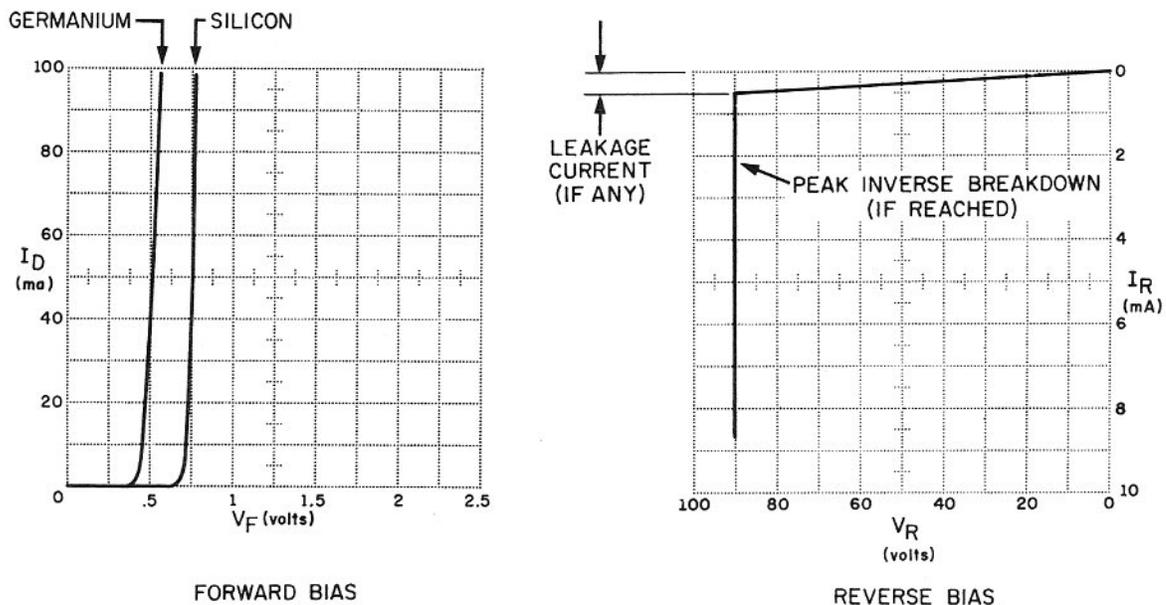

Figure 29. Typical Diode Curves
The diode to be tested is plugged into the collector and emitter pins of the transistor socket, or directly into the collector (C) and emitter (E) jacks of the curve tracer; test leads also may be run from the E and C jacks to the diode terminals. Since the polarity of the sweep voltage can easily be reversed with the POLARITY switch, the diode may be inserted into the socket without observing polarity. Of course, diodes inserted at one polarity will produce an oscilloscope display which deflects to the right and upward from its starting point, while the opposite polarity produces a display which deflects downward and to the left from its starting point. A consistent display can be obtained by always connecting the cathode of the diode to the emitter jack. With this polarity connection, the POLARITY switch should be in the NPN position for forward bias of the diode. The display will be the positive reading type as shown in Figure 29.
When testing diodes, only one curve is displayed, not a family of curves as displayed for transistors and FET's. The forward bias measurements that can be made are forward voltage drop and diode resistance. As shown in Figure 29, no current flows until the applied voltage exceeds the junction barrier. This forward voltage drop is about 0.3 volt for germanium diodes and 0.6 volt for silicon diodes. Above this point, current increases rapidly with an increase in forward voltage. The current increases more rapidly and the "elbow" has a sharper bend for silicon diodes than for germanium diodes. The dynamic resistance of the diode equals the change in forward voltage (V_F) divided by the change in forward current (I_F). Germanium diodes, with more slope to their curves, have higher dynamic resistance than silicon diodes.
The reverse bias condition of a diode may be displayed to check leakage (Figure 29). When the POLARITY switch is set to the opposite position as used for the forward bias tests, there should be only a horizontal line displayed. The oscilloscope centering must be readjusted because of the polarity reversal causes the trace to move off-screen. Leakage current is easier to check with a much higher voltage than was used for forward bias testing. The oscilloscope may be recalibrated for 10 volts per division, which allows display of the test up to 100 volts. Any measurable current which is displayed as a slope to the oscilloscope trace can be attributed to leakage current. If peak inverse breakdown of the diode occurs below 100 volts, it will be displayed as
shown in Figure 29. Note: Refer to "Breakdown Voltage Measurement" if the oscilloscope being used has less than 1 M Ω of horizontal input impedance.